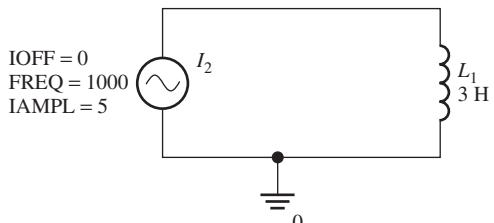
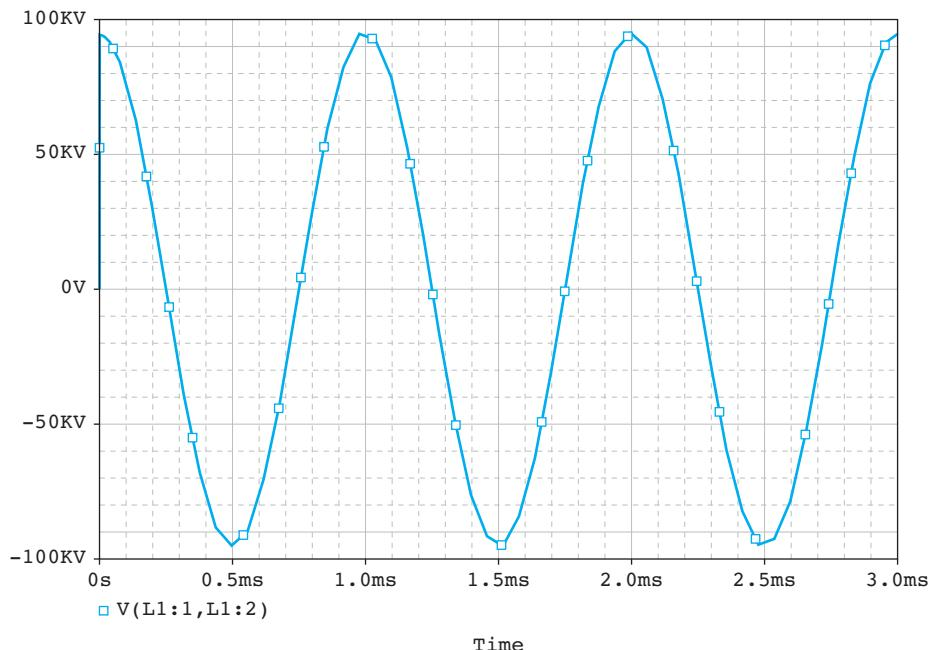

FIGURE 4.36 PSpice solution for Example 4.10.
FIGURE 4.37 Results for Example 4.10.
4. Wire the circuit as shown in Figure 4.36 and run the simulation for 5 ms. The result is shown in Figure 4.37.